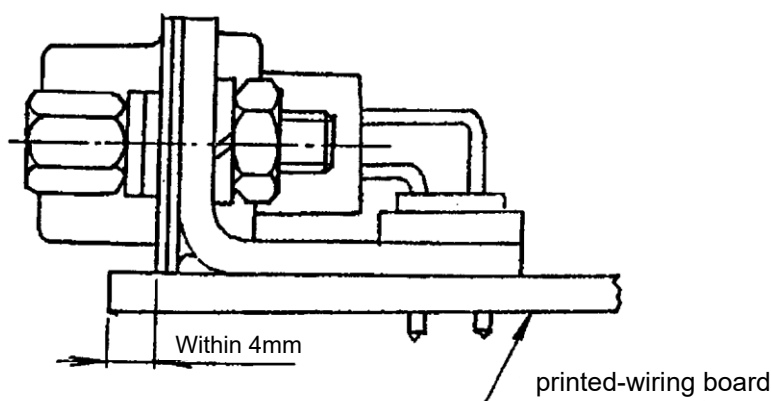

Figure 6. Right Angle Through Hole Type Connector
- (1) When the screw locks are used with the right angle thorough hole type connectors, install the connectors within 4mm from the edge of printed-wiring board as shown in Figure 6 to prevent the male screw locks from touching the printed-wiring board.
- (2) To install the female screw locks on a panel, it is recommended to use paint to avoid rotation of the female screw locks.